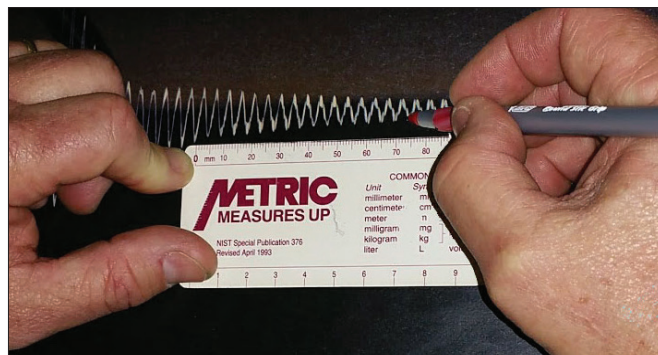

Fig. 10. Measuring the crest-to-crest distance.
1. **Use a** metric ruler to measure the distance of multiple waves (Fig. 10).